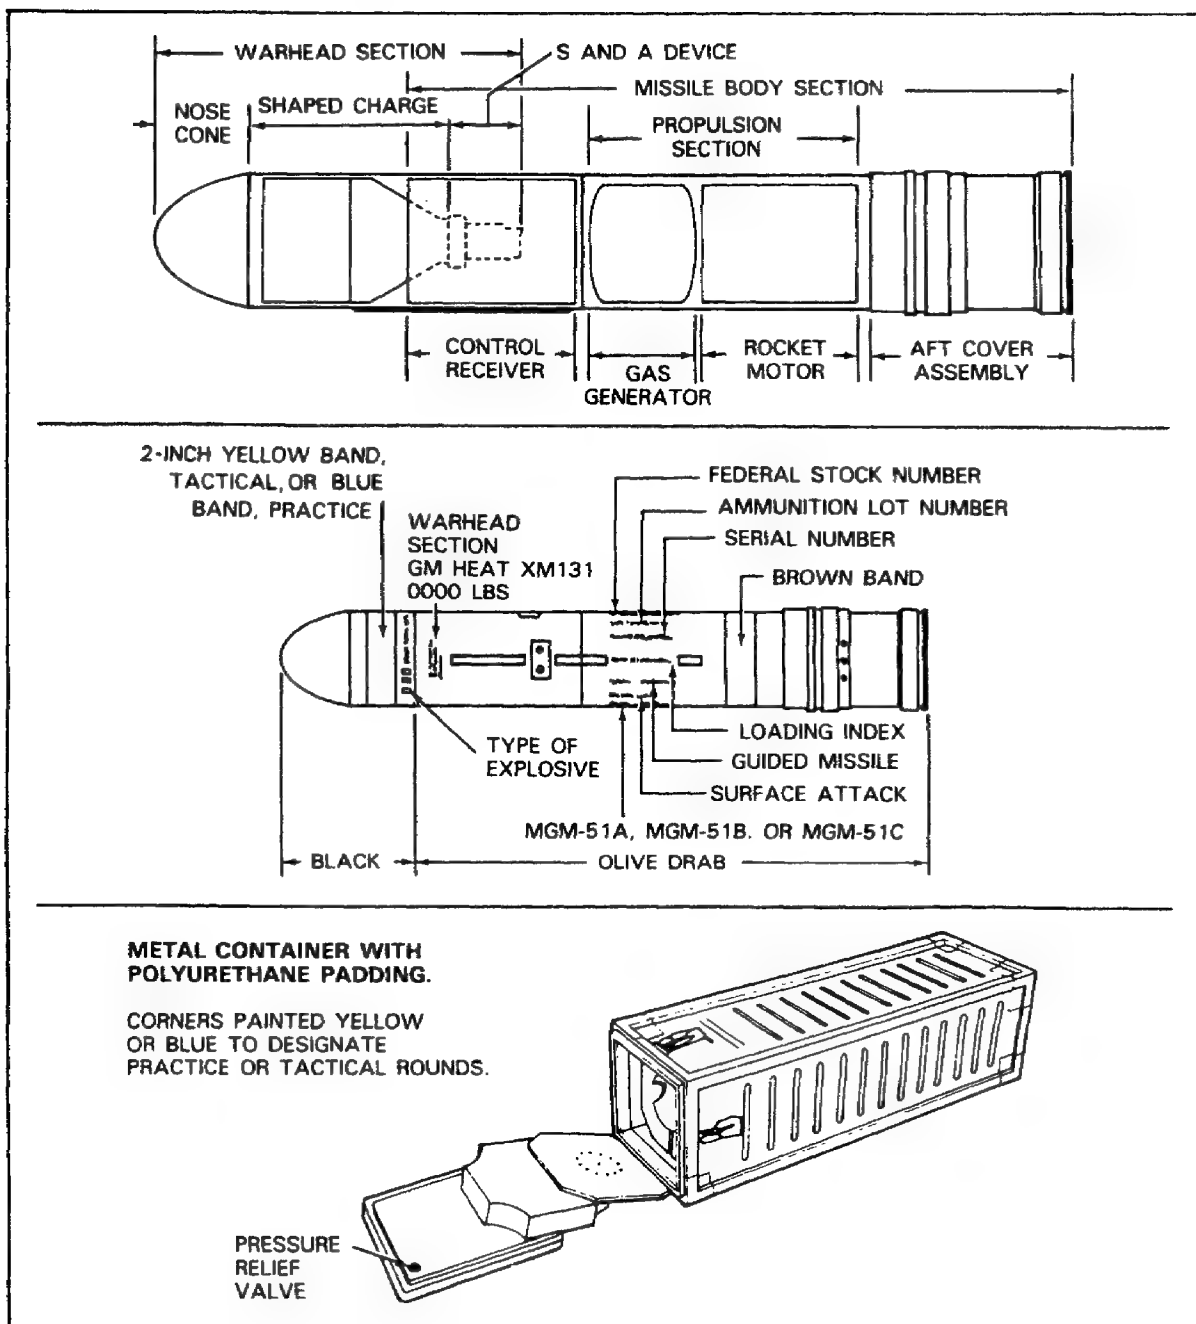

Figure 74. Shillelagh ATGM.
**Shillelagh.** The Shillelagh, named after an Irish war club, is an antitank guided missile fired from the 152mm gun tube on the M60A2 tank or from the Sheridan armored reconnaissance vehicle. See Figure 74. It uses an optical infrared data link guidance system. This means that both the missile and launcher have infrared receivers